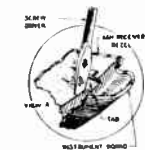
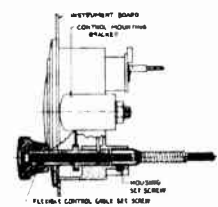

FIGURE 5
FIGURE 6
Loosen the two (2) screws which secure the instrument board brace to the instrument board flange. The cradle assembly can be slid forward then. Next, loosen the bolts on the brace in back of the instrument panel and remove the toggle spring. Slide the entire assembly forward and remove. Figure 5 gives the details of the ash receiver assembly while Figure 6 gives an enlarged view of the section A in Figure 5. Be sure to tighten all bolts and screws that were loosened for this operation.